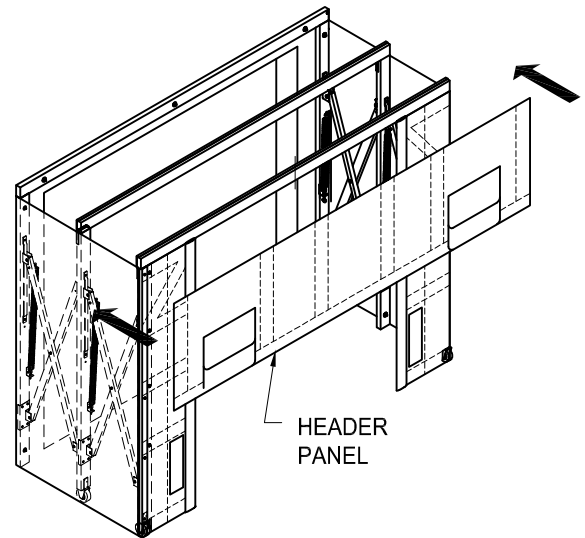

FIG. 6
* Using #10x3/4" hex washer tek screws; attach header curtain from center and work outwards by screwing beside each stay (fig. 6).